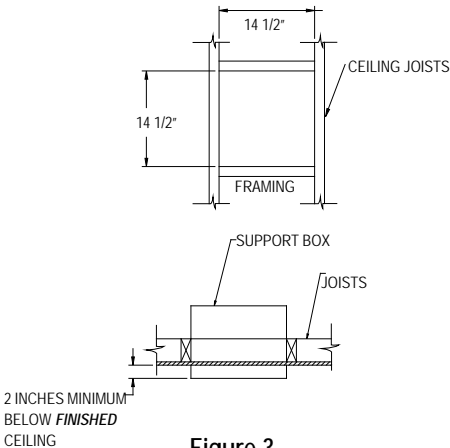

Figure 3
2. **Frame Support Opening:** Drop a plumb bob to the center of the appliance's flue outlet and mark this center point on the ceiling. Refer to Table 2 for specific framing and clearance dimensions. Mark appropriate cutting lines around the center point. Cut a square hole in the ceiling for a Square Support Box, or a round hole for a Round Support Box. Frame a level, square opening centered over the hole which you have cut. **(Figures 3 and 4).**